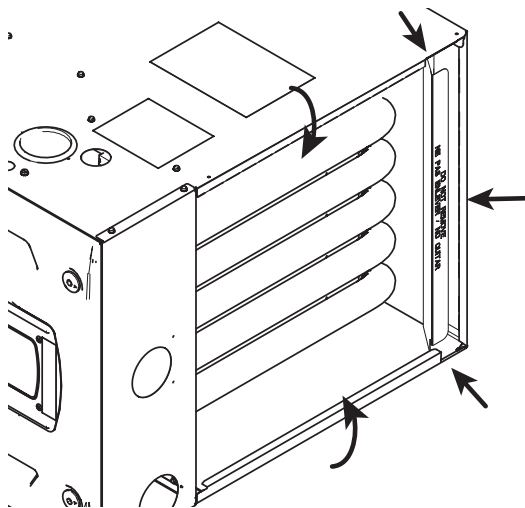

Figure 5
- Optional but recommended: On 4TXCC009DS and 4TXCD010DS only, remove the (2) outer water diverter baffles by removing the 5/16" hex head screws. See Figure 5.